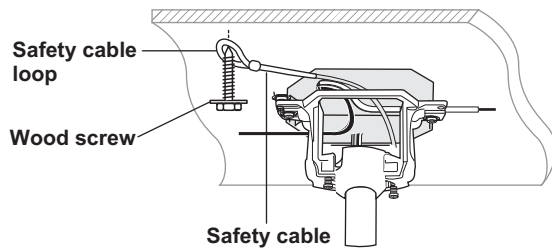

Figure 5
8. Now lift the motor assembly into position and place the hanger ball into the hanger bracket. Rotate until the "Check Tab" has dropped into the "Registration Slot" and seats firmly. The entire motor assembly should not rotate if this is done correctly. (Fig. 5)
10. An additional safety support is provided to prevent the fan from falling. Secure the safety cable to the ceiling joist with a screw and washer. (Fig. 5). **NOTE:** Ensure the safety support is the correct length for your down rod. If you are using a short downrod please adjust the safety support cable to 300mm max (12") longer than the downrod. IE: There should be 300mm max (12") of safety support cable coming out the top of the downrod